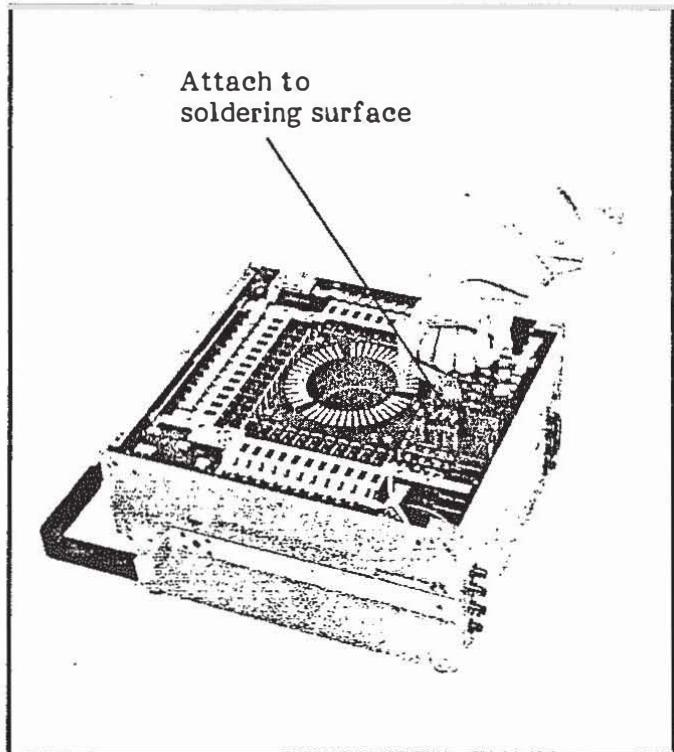
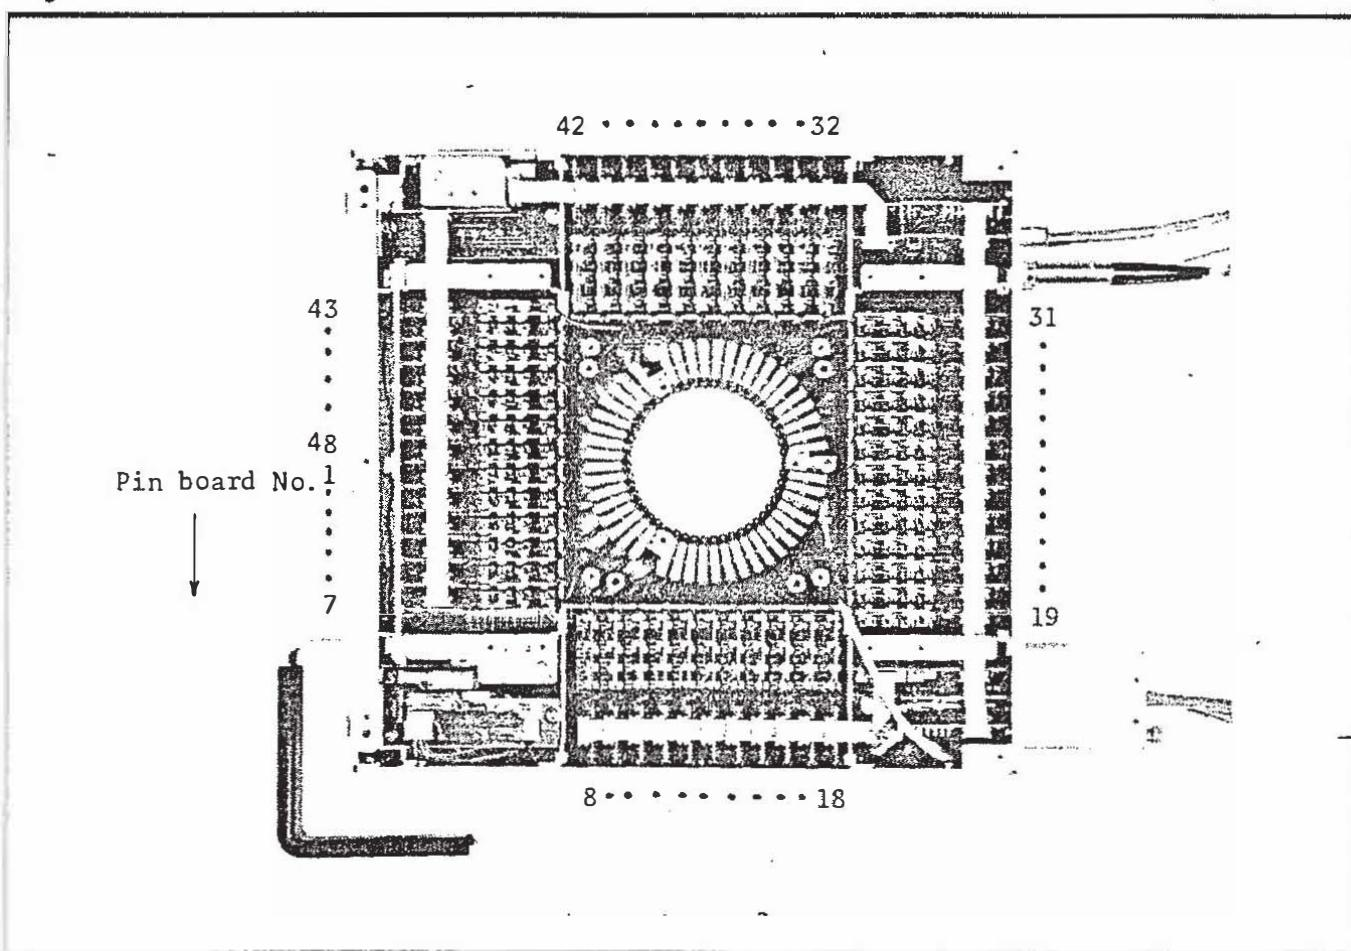

Figure 4-7. Pin Board Removal
Figure. 4-8. Pin Board Locations
3. Remove the pin boards that are to be repositioned. Use the pin board extractor. Refer to Figure 4-7. The pin board locations are shown in Figure 4-8.
- (1) Note the pin board number and relay number given in the error message.
- (2) Remove the pin board. Refer to paragraph 4-19. Figure 4-8 shows the pin board locations.